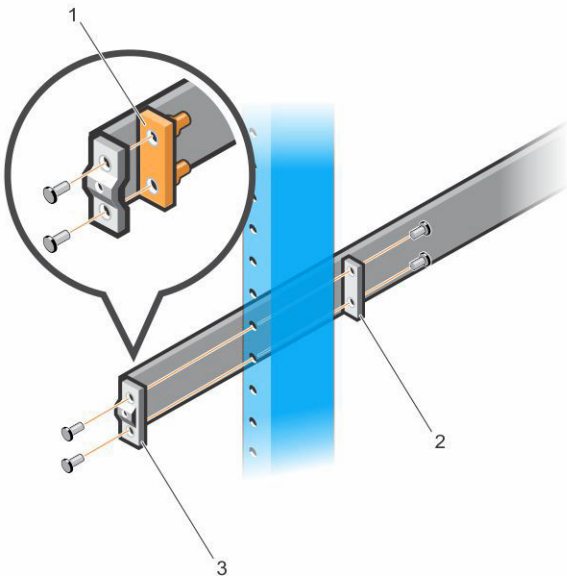

Figure 18. 2-Post Flush-Mount Configuration
- 1 For this configuration, remove the castings from the front side of each ReadyRails assembly. See item 1 in Figure 18. Use a Torx driver to remove the two screws from each front flange ear (on the switch side of the rail) and remove each casting. Retain the castings for future rack requirements. You need not remove the rear flange castings.
- 2 Attach one rail to the front post flange with two user-supplied screws. See item 2.
- 3 Slide the plunger bracket forward against the vertical post and secure the plunger bracket to the post flange with two user-supplied screws. See item 3.